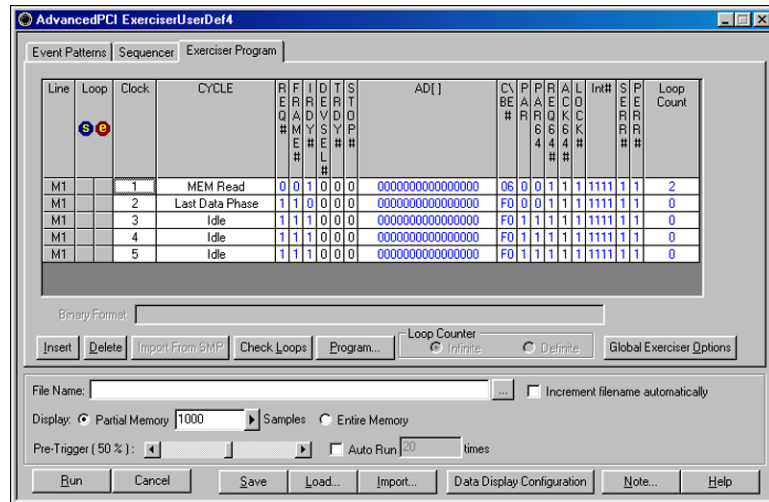

Figure 82 Compiled Output File With Padding
Checking Insert Idle and entering the number of idles desired will insert Idle states at the end of each compiled command. See Figure 82. Adding idles at the end of commands allows the TA700/800 to be precisely controlled on how long it will utilize the bus.
6. When done, click **Compile . . .** to generate and view the executable exercise code as displayed in Figure 82.